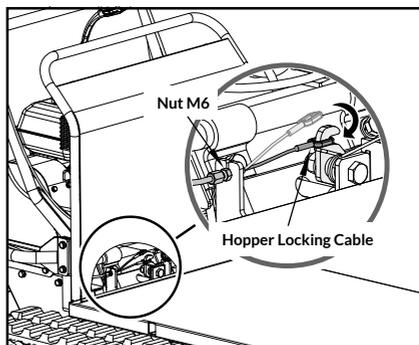

Figure 7
3. Hook the hopper locking cable as shown in figure 7. Tighten the M6 nut.